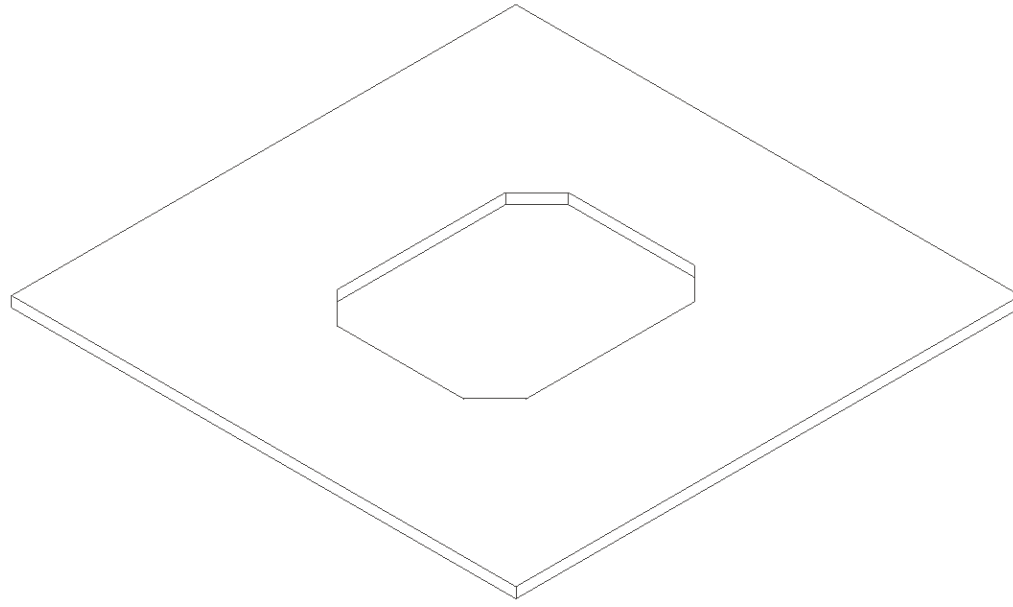

Figure 5
Step 5 - Remove the template from the tile and the waste piece from center (if it didn't fall out during the cutting operation). Clean any rough edges. The tile is now ready for installation (Ref. figure 5).